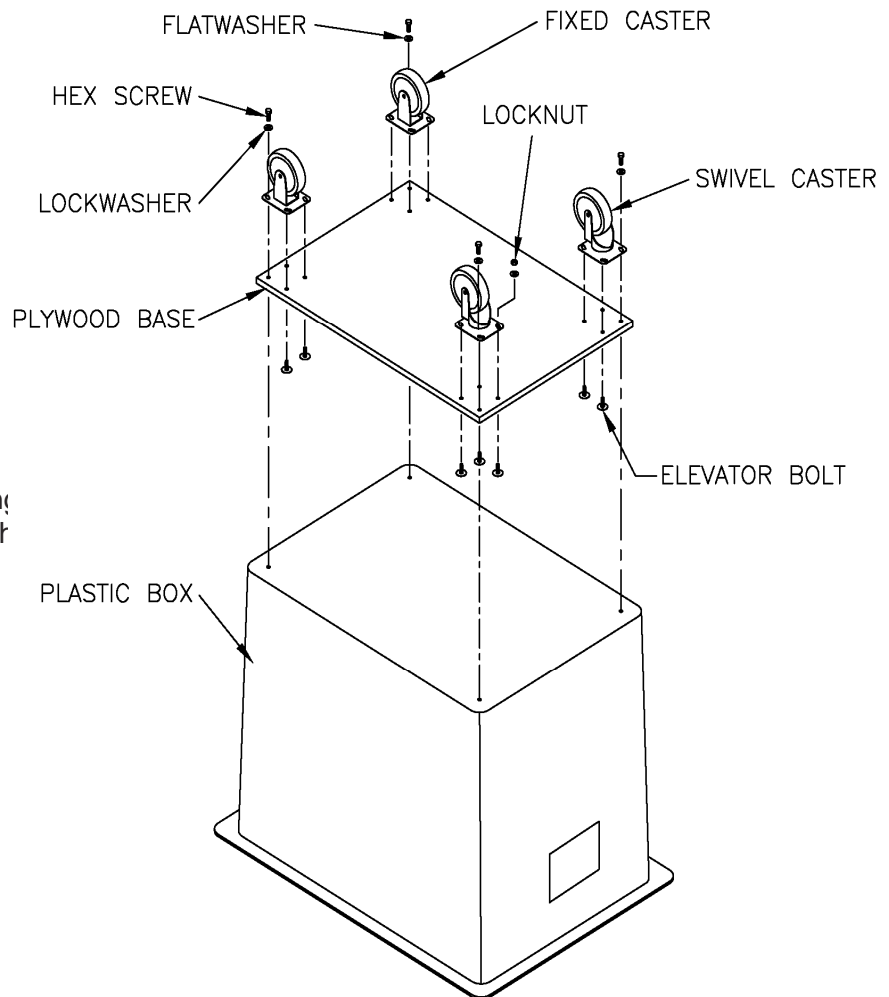

Figure 2
- 3) Insert (12) elevator bolts through plywood from bottom side up. Refer to figure 2.
- 5) Install (1) 3/8 hex machine screw through the outer corner hole of plate and base with flat and lockwashers into the box.
- 7) Install flat and lockwashers to the remaining (3) elevator bolts and loosely tightened with 3/8 locknut. Refer to figure 2.